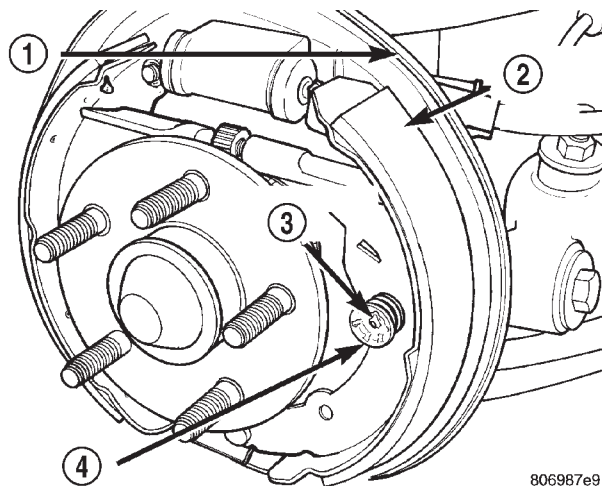

Fig. 106 Hold Down Spring And Pin
(7) Remove the hold down spring and attaching pin (Fig. 106) from the leading brake shoe.
(7) Install the leading brake shoe on the brake support plate. Then install the attaching pin and hold down spring for the leading brake shoe (Fig. 106).